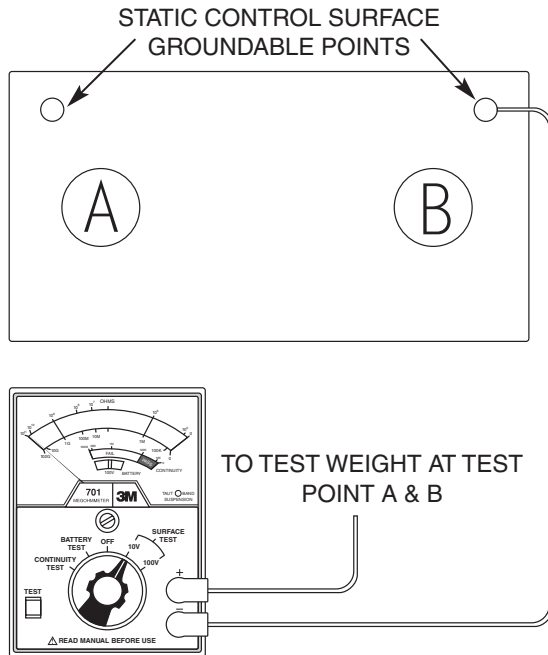

Figure 5-4: Material Evaluation Surface to Groundable Point Test
D. Surface-to-Groundable Point Test: Test samples per Figure 5-4, using both the 100 volts and 10 volts SURFACE TEST ranges at 50% RH and record the values as ( $R_{TS-GP}$ ).